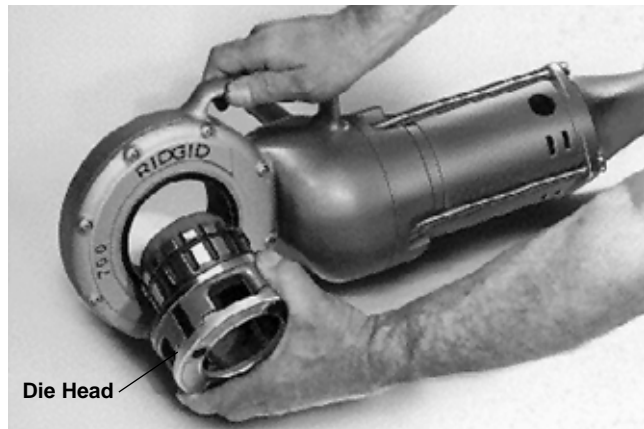

Figure 3 – Installing No. 12-R Drop Head Die Head
1. Push Die Heads or Adapters, spline end first, squarely into the Power Drive until the spring-loaded adapter pawls catch securely (Figure 3).